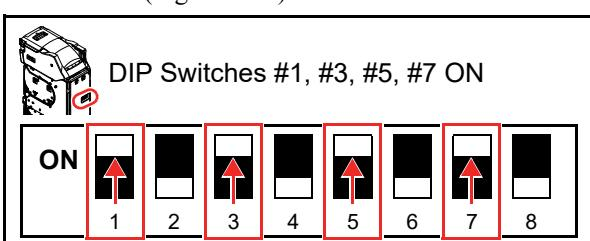

Figure 6-84 DIP Switch Test 5
7. Re-set the DIP Switches of the RT/RQ Unit as below (Figure 6-84).